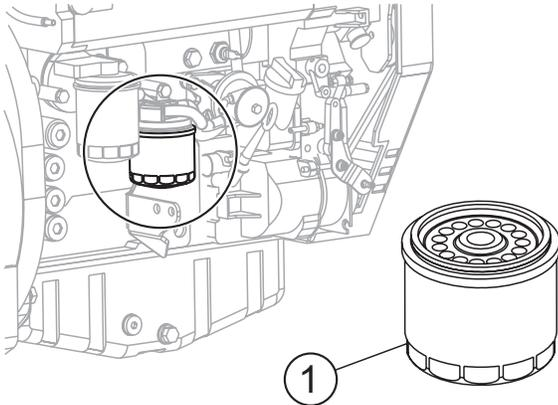

Figure 43. Fuel Filter Removal
- Replace the engine fuel filter (Figure 43) every 500 hours. Refer to your engine manual for specific details to perform this operation.